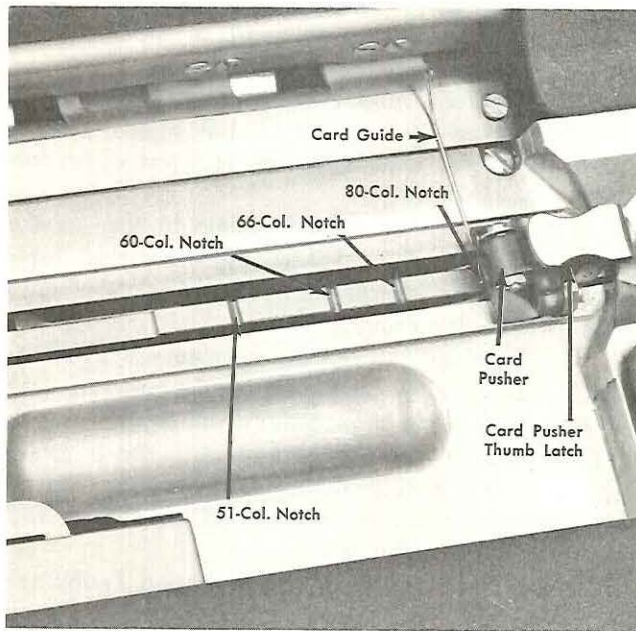

Figure 17. Latch-Type Card Pusher
2. Lift the thumb latch and move the card pusher to the proper card column notch (see Figure 17). A spring guides each card under the card pusher for correct feeding position.